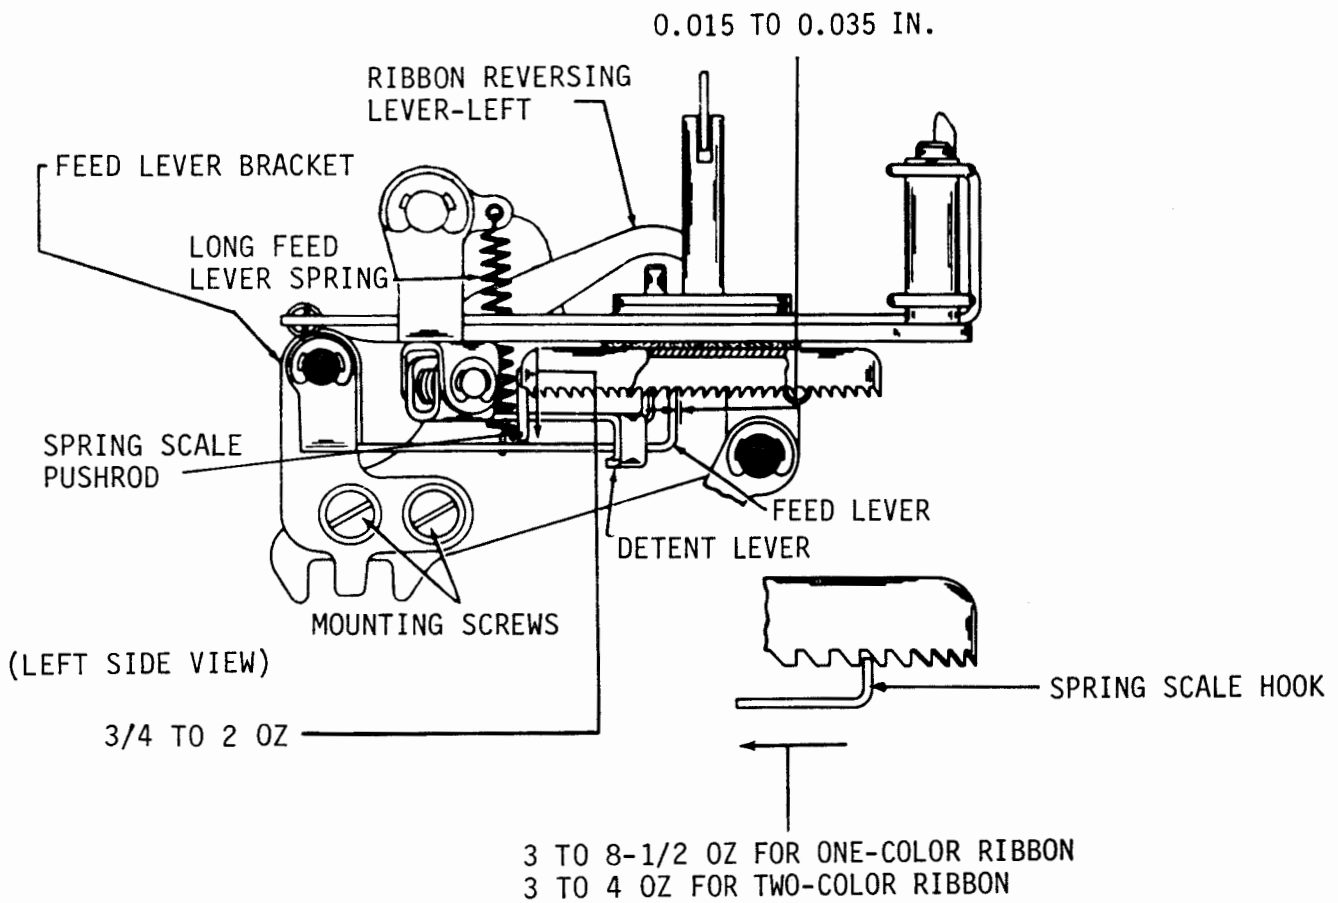

Figure 6-63. Ribbon Feed Lever Bracket, Ribbon Feed Lever Spring, and Ribbon Ratchet Wheel Friction Spring
(a) Refer to figure 6-63.
(14) Ribbon Feed Lever Spring. Adjust ribbon feed lever spring as follows:
- (a) Refer to figure 6-63.
(15) Ribbon Ratchet Wheel Friction Spring. Adjust ribbon ratchet wheel friction spring as follows:
(16) Ribbon Lever Spring. Adjust ribbon lever spring as follows: